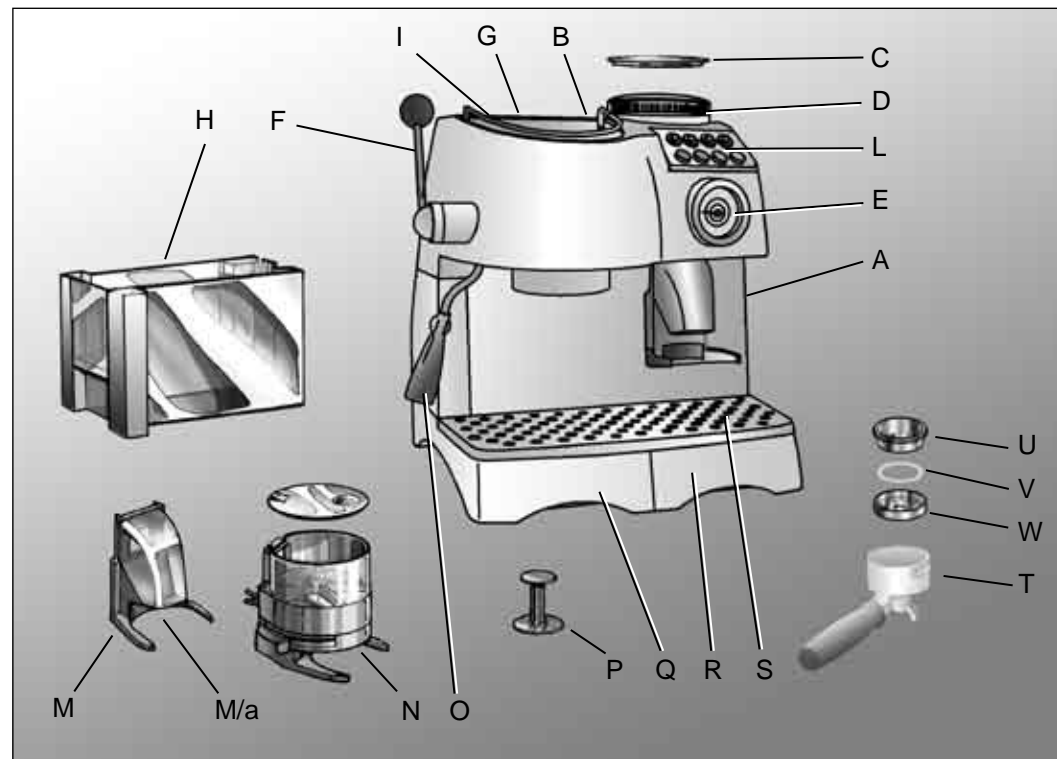

Fig. 1
- 1) "Continuous flow" device (M) Fig. 1 for the coffee instantaneous grinding.